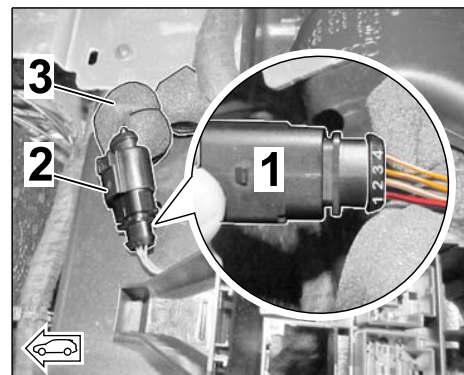

Figure 26
2.4.2 Connect the lines with pin contact and single-core seal (wire harness for engine noise) in the connector housing (4-pin, see parts list ⇒ *Figure 26 -inset-*) as follows:
2.4.3 Lock connector housing (4-pin) and establish a plug connection to the connection point (⇒ *Figure 26*).